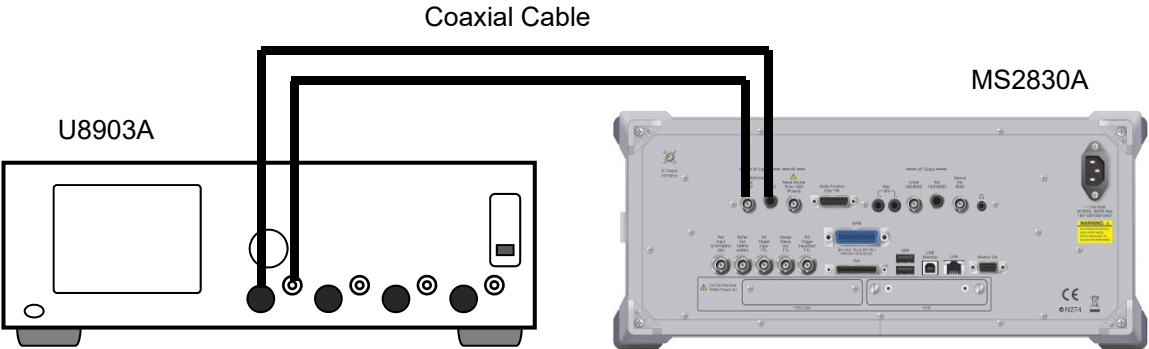

Figure 4.3.3-1 Connection of Input Distortion Test
1. Connect the devices according to Figure 4.3.3-1.